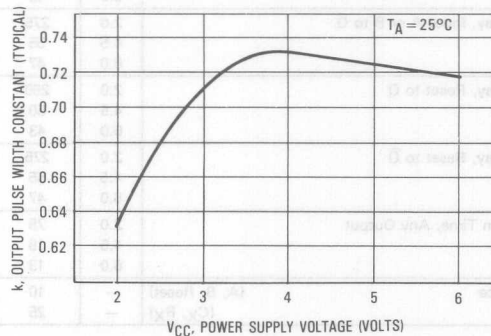

Figure 1. Typical Output Pulse Width Constant, k,
*For output pulse widths greater than 100 μ s, typically $\tau = kR_X C_X$, where the value of k may be found in Figure 1.